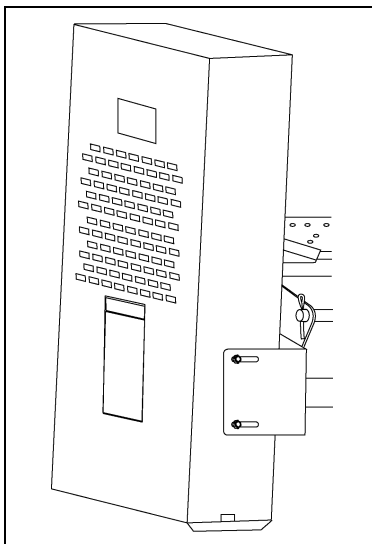

Figure 2C
2. Belt drive and pulley guard. (See Figure 2C.)